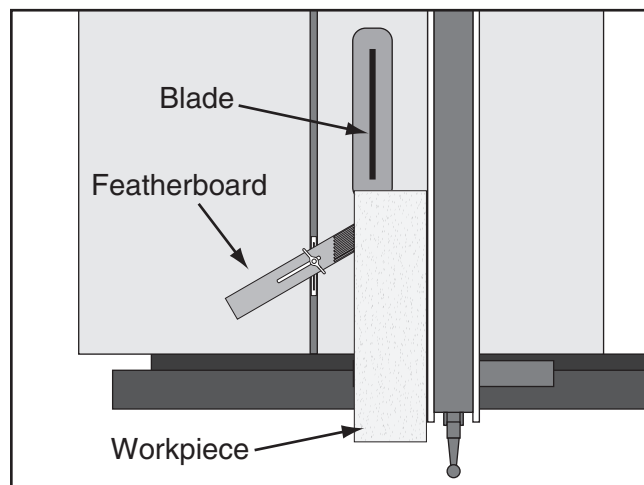

Figure 76. Featherboard installed in miter slot and supporting workpiece for ripping cut.
3. Slide the featherboard miter bar into the miter slot, making sure the fingers slant toward the blade, as shown in **Figure 76**.